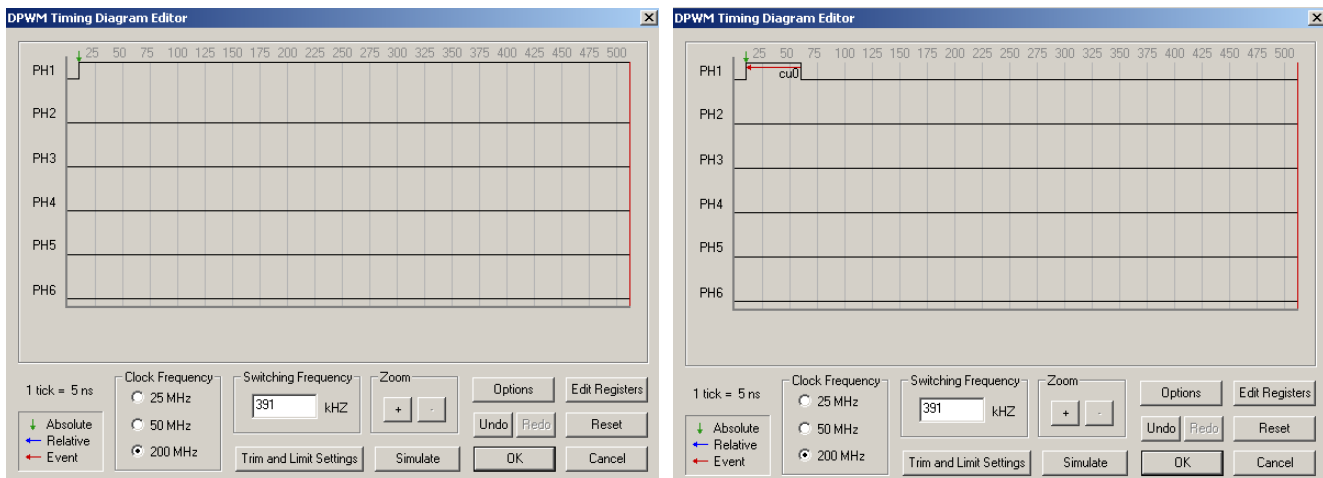

Figure 9. DPWM Timing Diagram Editor—Phase 1
2. To create an absolute edge on Phase 1, hold the mouse above the Phase 1 zero timing line (default) at time tick 10. Then, either double click with the left mouse button or right-click at that point and select **Absolute Edge**. An absolute edge at time tick 10 will be created (see Figure 9).
3. To finish the timing for Phase 1, specify hardware modulation using (**Cu0**). This event edge will be modulated relative to its absolute edge at time tick 10. To create this edge, hold the mouse above the Phase 1 timing line to the right of time tick 10 at time tick 60. Either double-click or right-click at that point and select **Event (Cu0) Edge**. Next, select the edge to reference by clicking on edge 1 in Phase 1. A relative falling (Cu0) edge will be created at time tick 60 since U(n) defaults to 50 (see Figure 9).